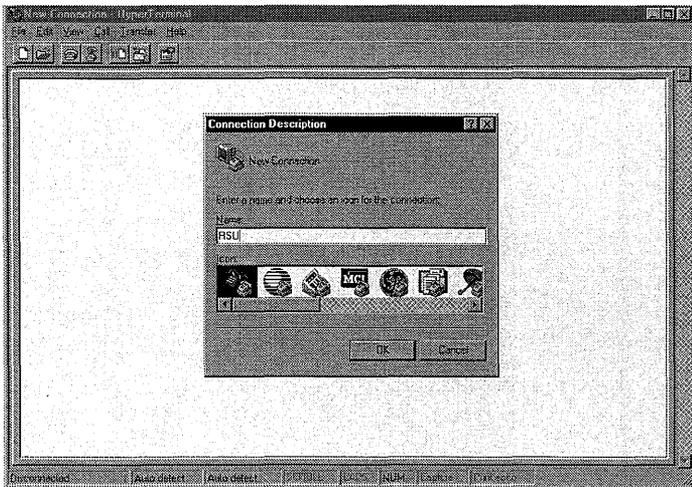

Figure 22
4. Enter a name for the connection (e.g. "RSU") and select an icon. (Please see figure 22 below).